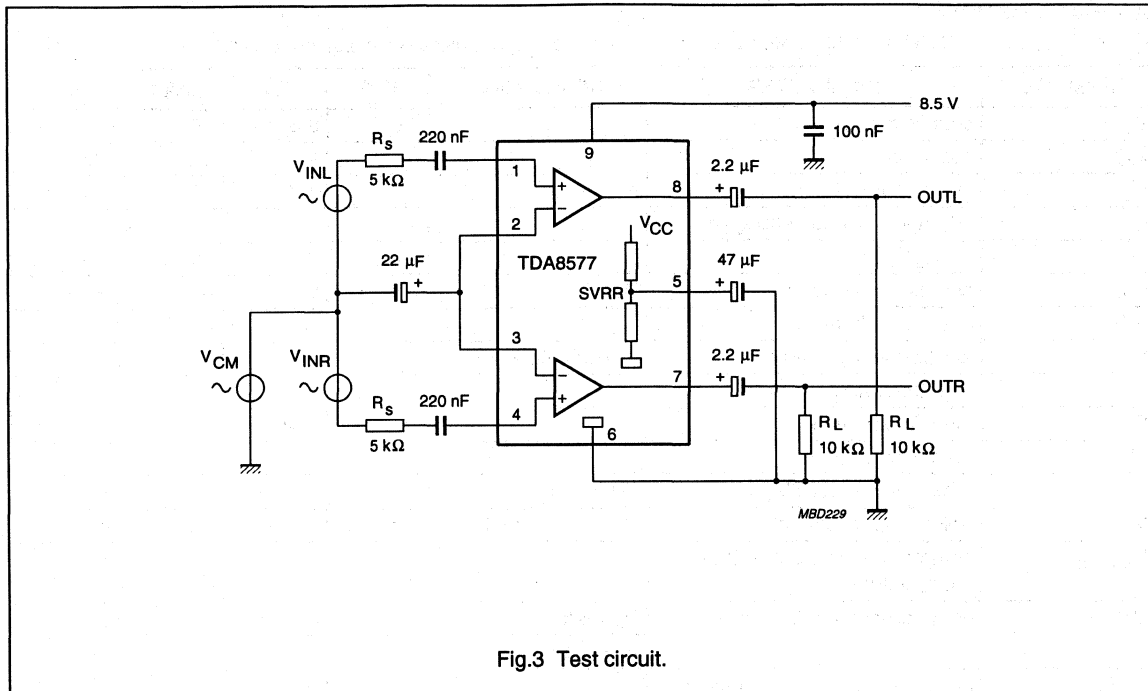

Fig.3 Test circuit.
$V_{CC} = 8.5 \text{ V}$; $T_{amb} = 25 \text{ }^\circ\text{C}$; $f = 1 \text{ kHz}$; measured in test circuit of Fig.3; unless otherwise specified.
4. The common-mode rejection ratio is measured at the output with a voltage source of 1 V (RMS) in accordance with the test circuit (see Fig.3) while V_{iNL} and V_{iNR} are shorted-circuited. Frequencies between 100 Hz and 100 kHz.